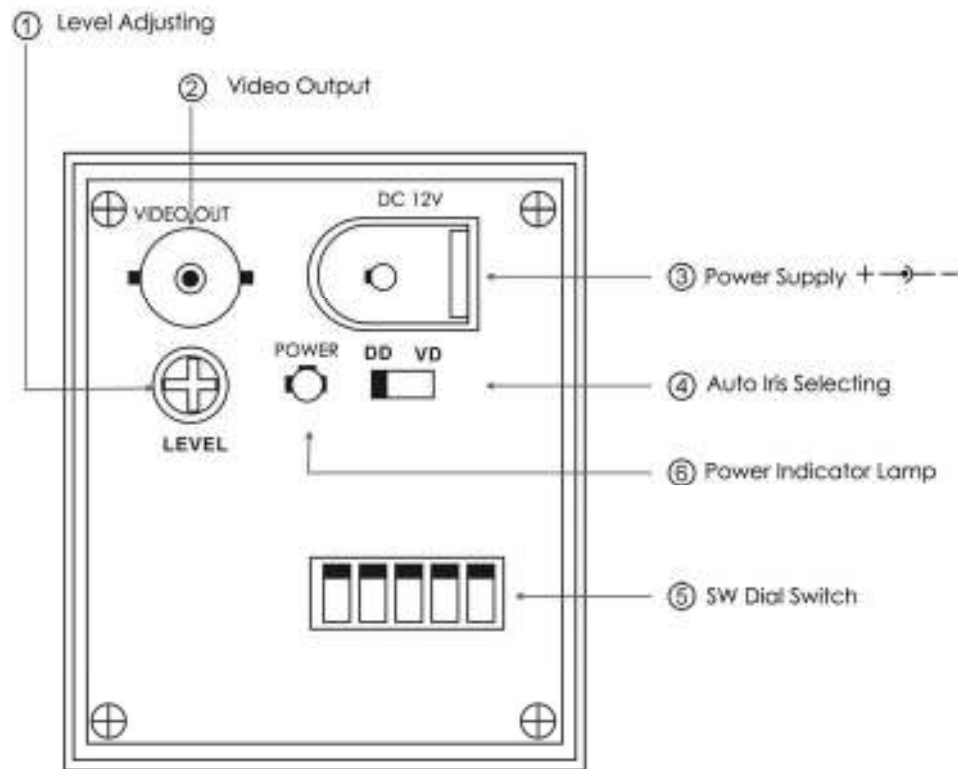

Figure 1.2 Rear Panel of Box Camera
Note: The rear panel varies according to different models. E.g., the rear panel of DS-2CC132P(N) as shown below is different from Figure1.2.